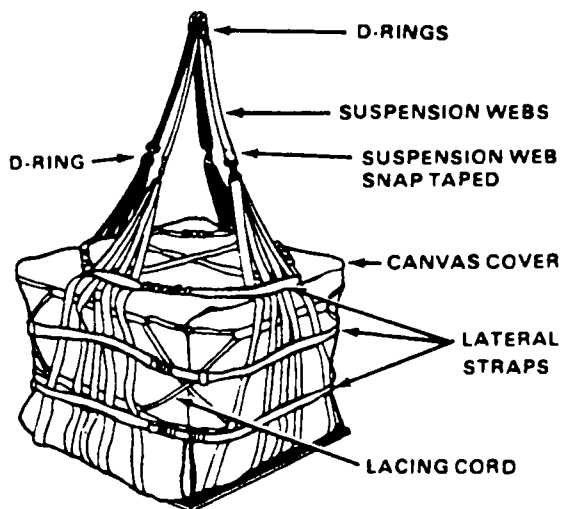

Figure 8-1. A-22 Cargo Bag
* The A-22 cargo bag is an adjustable cotton duck cloth/nylon and nylon webbing container consisting of a sling assembly, cover, and four suspension webs (Figure 8-1). The bag is used to transport palletized loads, loose cargo, ammunition, drums, and other general cargo. Maximum weight capacity is 2,200 pounds. The weight of the A-22 is 58 pounds. You may rig the cargo in the bag with or without the cover.